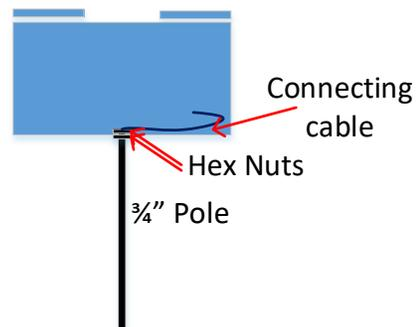

Figure 3: GPS Dome Model T Mechanical Interface
- (1) Installation and methods used to secure the GPS DOME Model T system may vary depending on the place of installation and cable's availability.
- (2) Use general purpose tools to carry out this installation procedure unless specific tools are called up in text.
- (3) The GPS DOME Model T is composed of elements that are IP67 certified as long as the recommended TNC connector is tightened to the correct torque and the cable is sealed using the correct sealant.
**Step 1.** With reference to Figure 3, carry out the following: